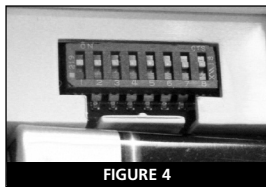

FIGURE 4
2. Find the 8-position dipswitch located on the back of each device. For this model, the dipswitch is located under the battery door (see Figure 4).